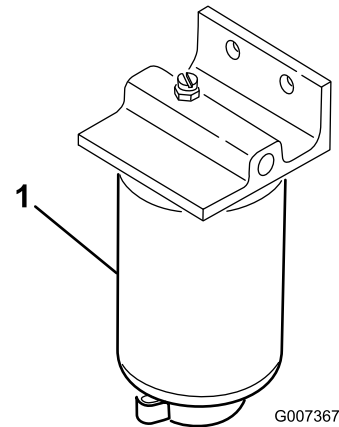

Figure 61
1. Place a clean container under the fuel filter(Figure 61).